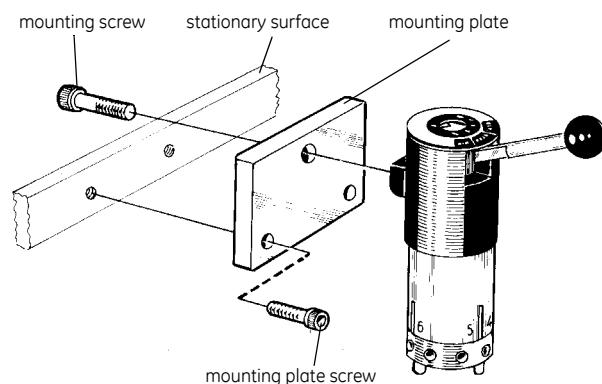

Fig 2. Rigid mounting for Valve V-8.
The mounting screw is used in the following manner (Fig 2.):
- 1 Make a small mounting plate (Fig 2.) out of a rigid material i.e. metal, plastic or wood.